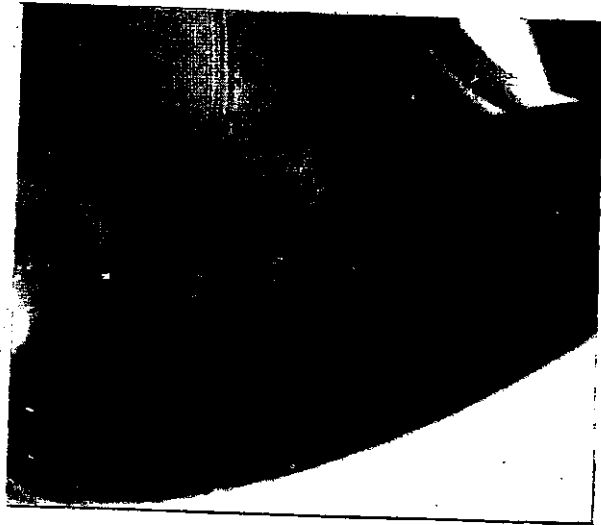

FIGURE 5-1
- (1) Disconnect power to pump and tag "DO NOT CLOSE SWITCH."
- (2) Place all cargo valves in CLOSED position.
- (3) Relieve pressure on pump, and drain.
- (4) Unbolt and remove bearing cap (on bearing opposite pump pulley).
- (5) Bend locking tang on the lockwasher and remove the locknut and lockwasher by turning counterclockwise.
- (6) The pump shaft should then be checked for burrs or roughness which may cut the pump shaft seal.
- (7) Mark the position of the pump head on the casing.
- (8) Unbolt and remove the pump head. The pump head, seal and bearing come off together. Once bolts are removed, the head may have to be pried off with a screwdriver. The bearing and seal are slip-fit on the shaft.
- (9) If the seal or "O" rings have been leaking, replace these parts at this time. The mechanical seal is removed by unbolting the four capscrews in the pump head and lifting from its recess. Clean the recess and repack the bearing (see paragraph 4.2.2.1). Be certain the seal is properly in place and the two driving prongs on the seal are outward through the pump head. Care must be taken to engage these prongs in the shaft when reinstalling the head.
- (10) Rotate the pump shaft so that two vanes correspond to the 1 o'clock and 11 o'clock position. Slide out these two vanes and replace with new ones (see Figure 5-1). Be certain that the wearing or rounded edge of the vanes contact the cylinder and the relief grooves in the vane face toward the leading or pressure side. With new vanes installed, turn shaft and repeat operation for remaining four vanes.